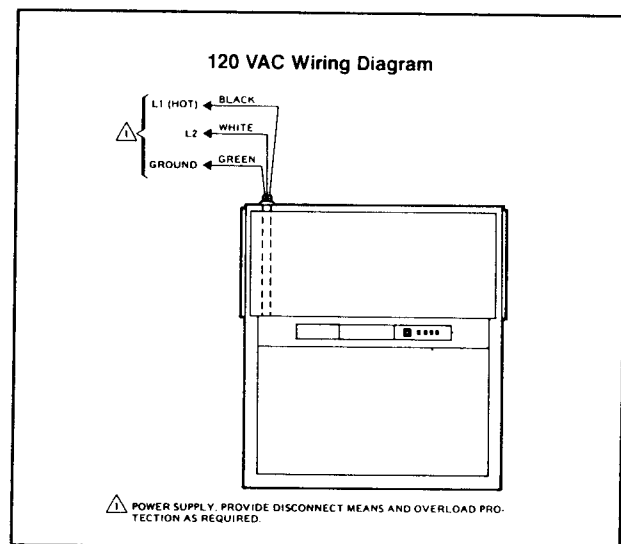

FIGURE 4 - WIRING HOOKUP TO F62B AIR CLEANER
3. Connect leadwires with solderless connectors. See Figure 4. Attach cover to J-box.